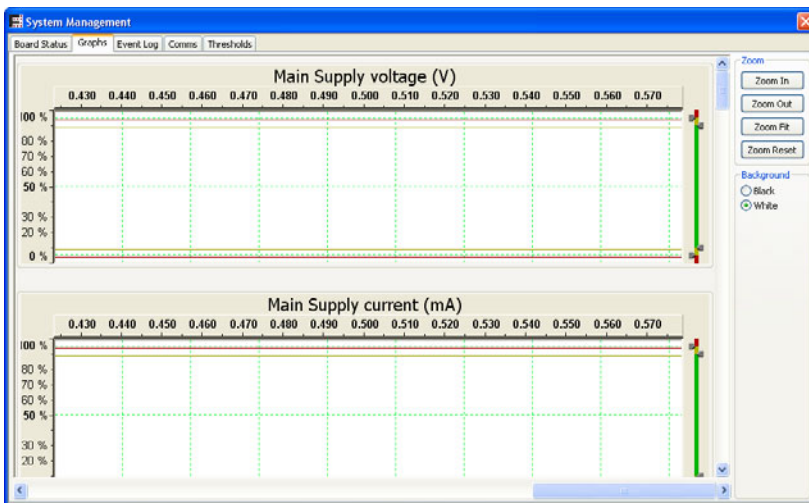

Figure 3-3. Graphs Tab
The **Graphs** tab generates the graphs for the various voltages, currents, and temperatures involved on the board (Figure 3-3).
**Note:** Figure 3-3 contains spikes, which were caused by global reset and will occur every time the reset button is pressed.